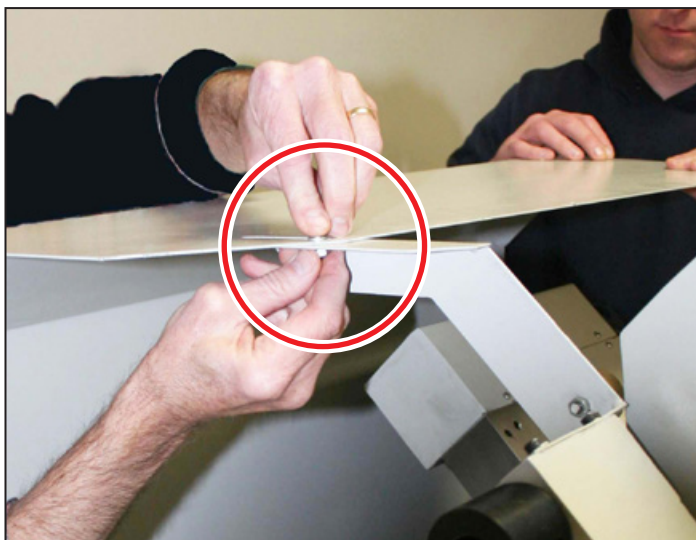

Figure 8
1. Connect the top of the Back Splash to the Chuck Guard using two 6 mm Socket head cap Screws, lock washers, flat washers and nuts (see **Figure 8**).